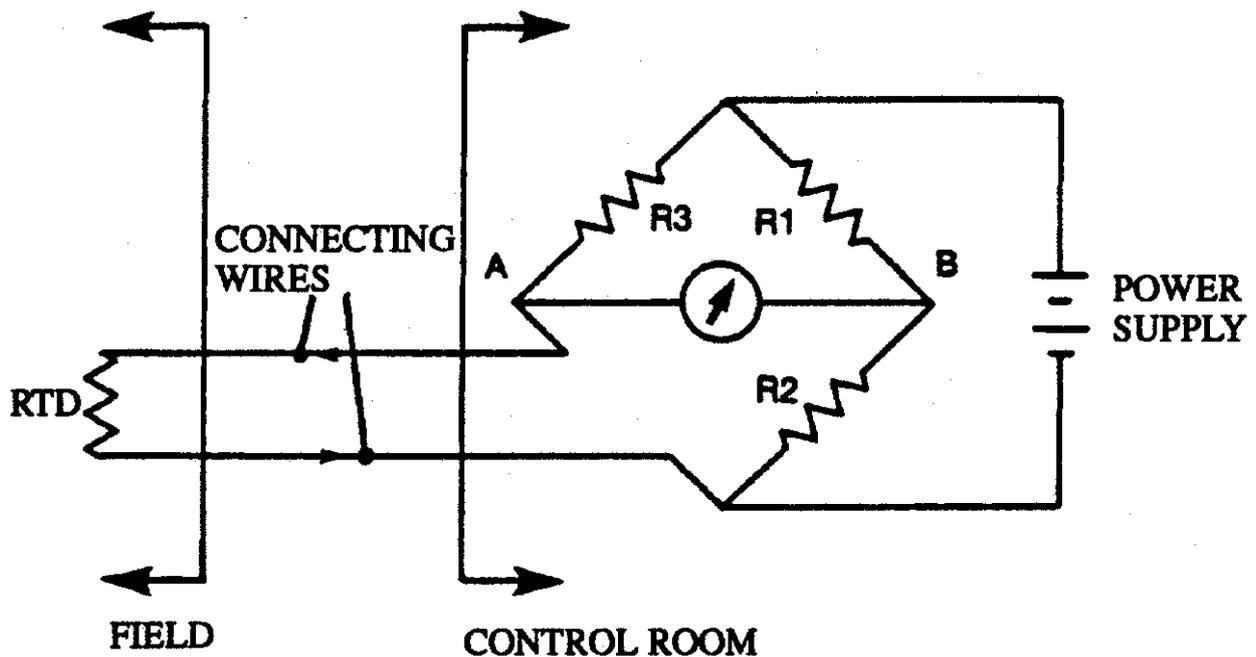

Figure 7: A Wheatstone Bridge Temperature Detector for an RTD.
- To detect and measure the variations of resistance of the RTD, a temperature transmitter in the form of a Wheatstone bridge can be used. (Figure 7).